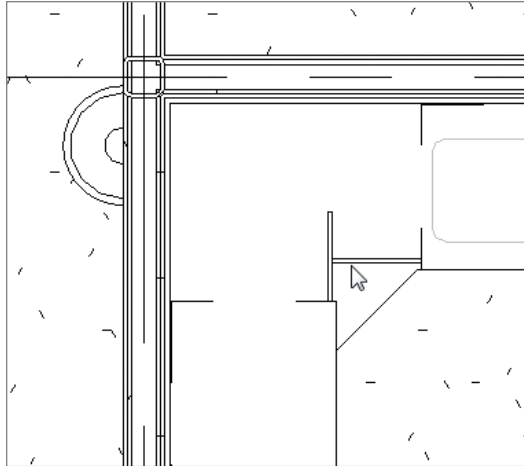

FIGURE 9.63 The completed corner
20. Add another Base Cabinet : Filler - 1'-1" to the opposite cabinet to create the corner, as shown in Figure 9.63.